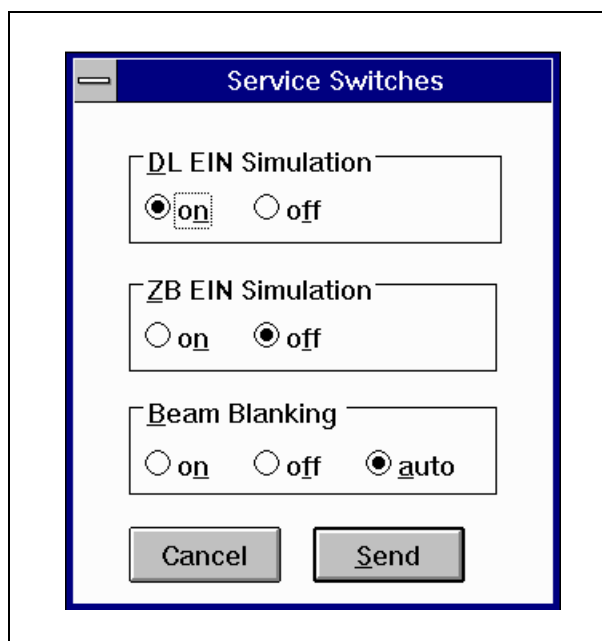

Fig. 3
- Call **<Service Switches>** under **<Diagnostics>**. Click DL EIN Simulation "**on**", as shown in Fig.3 and switch video channel through with "**Send**".